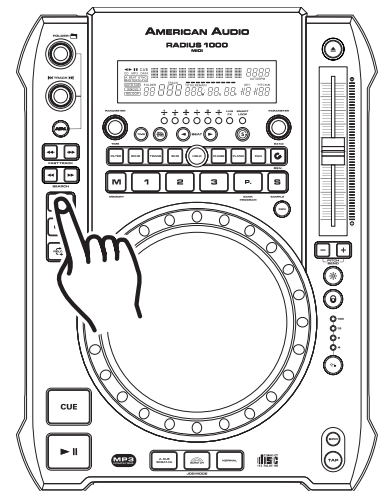

Figure 13
A cue point is the exact point playback will begin when the *PLAY/PAUSE button* (13) is pressed. You may set your cue points anywhere on a disc or in a track. You may set up to three independent cue points per disc. Three cue points are stored in the *BANK BUTTONS 1-3* (26). There are two (2) ways to set and create a CUE point as detailed in figures 13 and 14.
- 1) You may press the *IN BUTTON* (15) on the fly (while the disc is playing). This will set a CUE Point without music interruption. Pressing the *CUE BUTTON* (14) will now return you to the same point that you pressed the *IN BUTTON* (15). You may now store this CUE Point in any of the *BANK BUTTONS 1-3* (26).